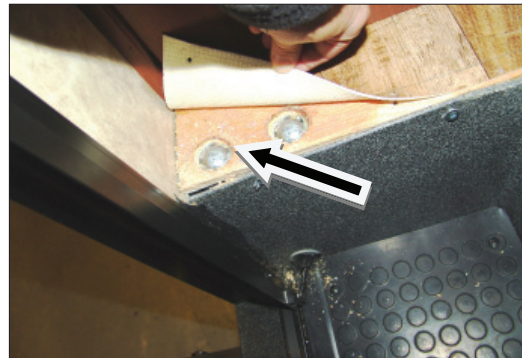

Figure 5
8. Pull up the corner of the floor covering. Measure and mark the location for a hole to be drilled through the floor near the step well, to allow the installation of a new carriage bolt. The hole's center should be 1" from the edge of the step well, and 1" from the sidewall. Countersink the hole so that the carriage bolt will be recessed into the floor after installation. See Figure 5.